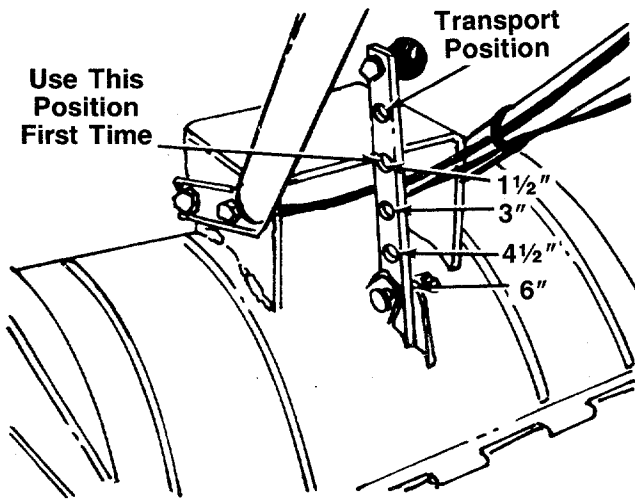
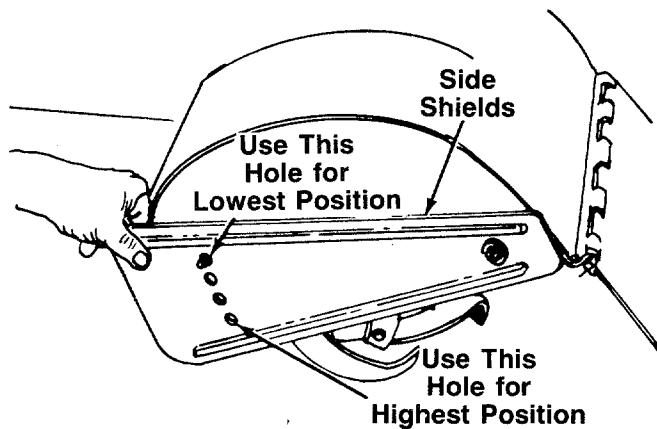

FIGURE 18.
FIGURE 19.
**When operating the tiller for the first time, use the depth bar setting that gives 1½ inches of tilling depth (second hole from the top). Refer to figure 18. Use slow speed only.**
Tilling depth is controlled by the depth stake which can be adjusted to five different settings. See figure 18. Adjust the side shields as shown in figure 19, as you adjust the depth stake. Be certain spark plug wire is disconnected and grounded against the engine.
1. When using the tiller for the first time, use the second adjustment hole from the top (1½" of tilling depth). See figure 18.
To adjust the depth stake, remove the clevis pin and hairpin cotter. See figure 18. Move the depth stake to the desired setting.
To adjust the side shields, remove the hex nut and belleville washer from the front and loosen the rear nut. See figure 19. Pivot the side shield to the desired position. Replace hex nut and belleville washer. Tighten securely.